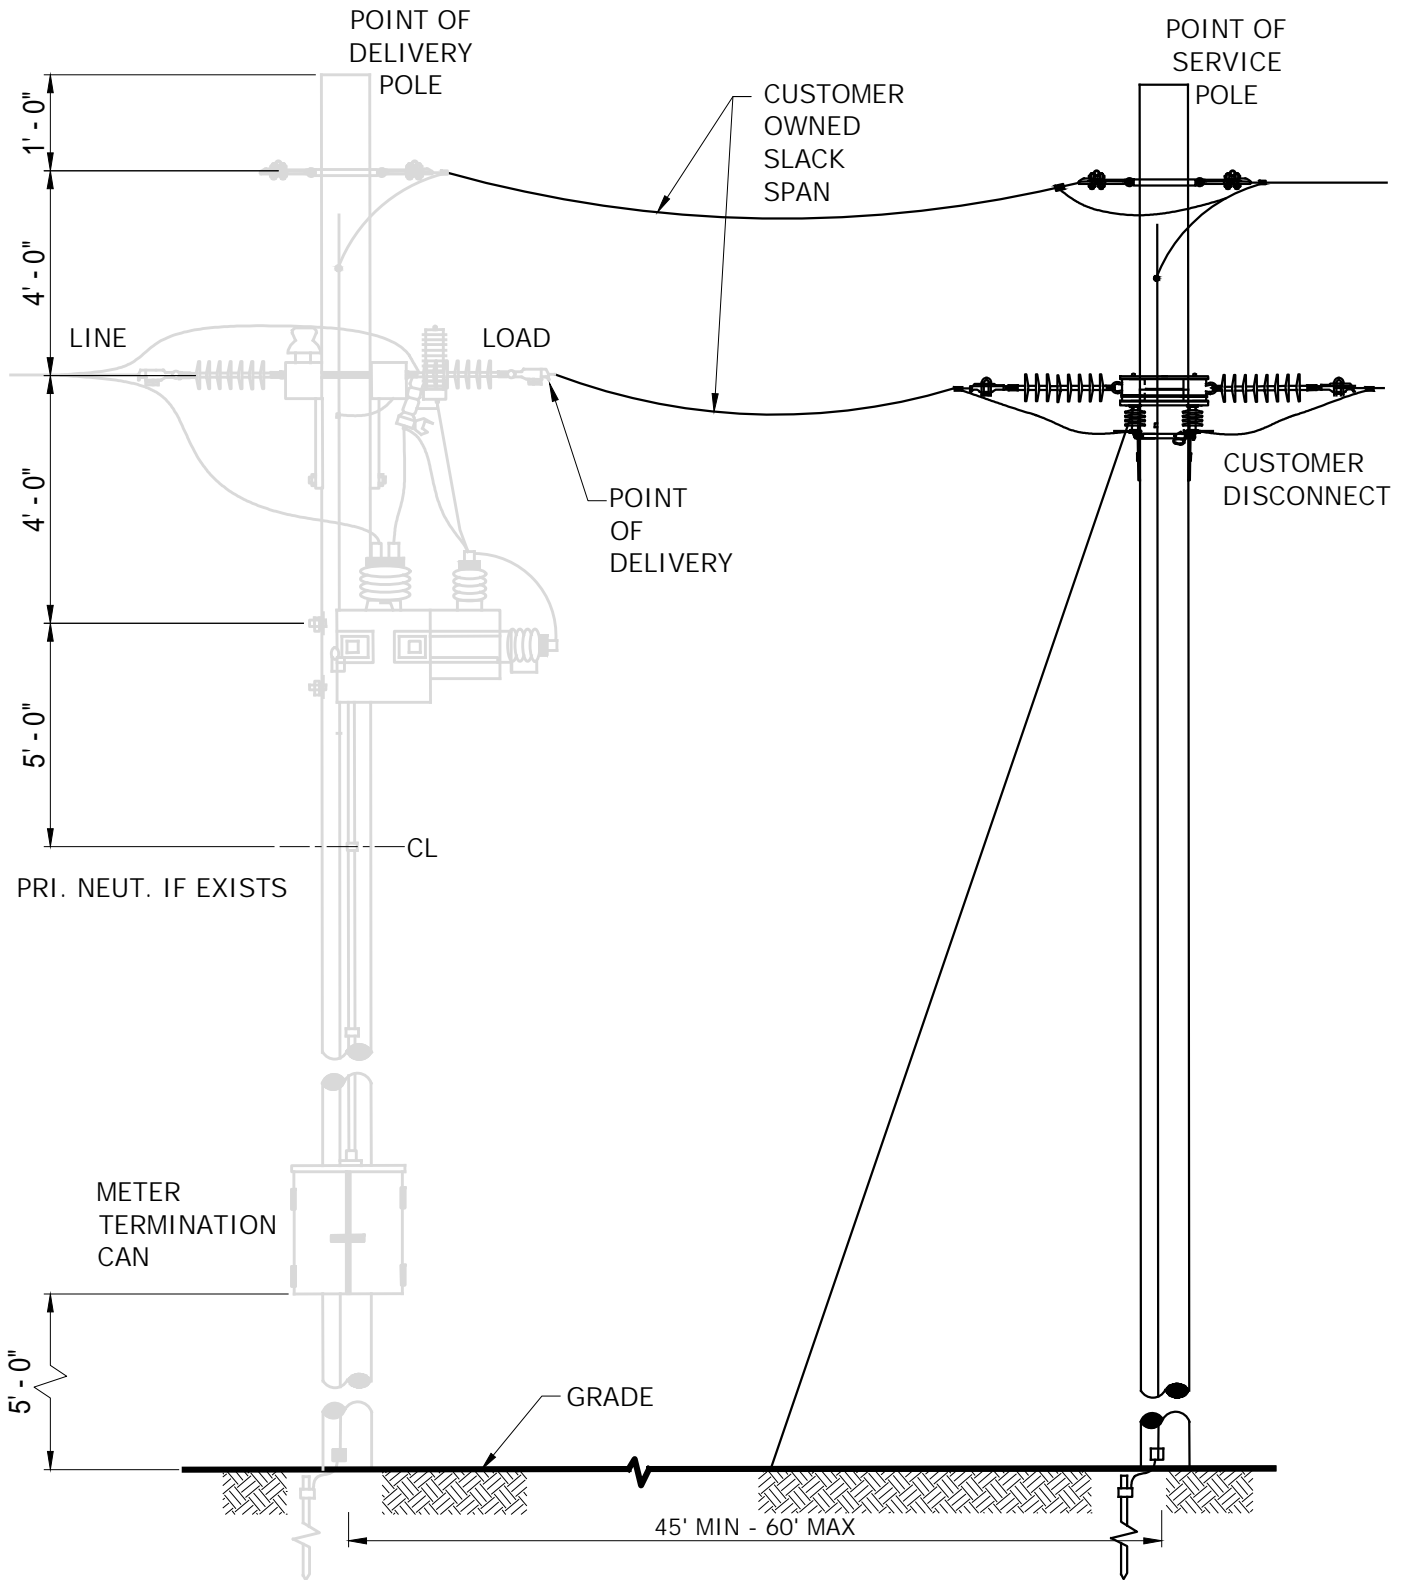

FIGURE 1
- a. Point of service pole installation, including all required related material, shall be as shown in the construction drawing in Figure 1.